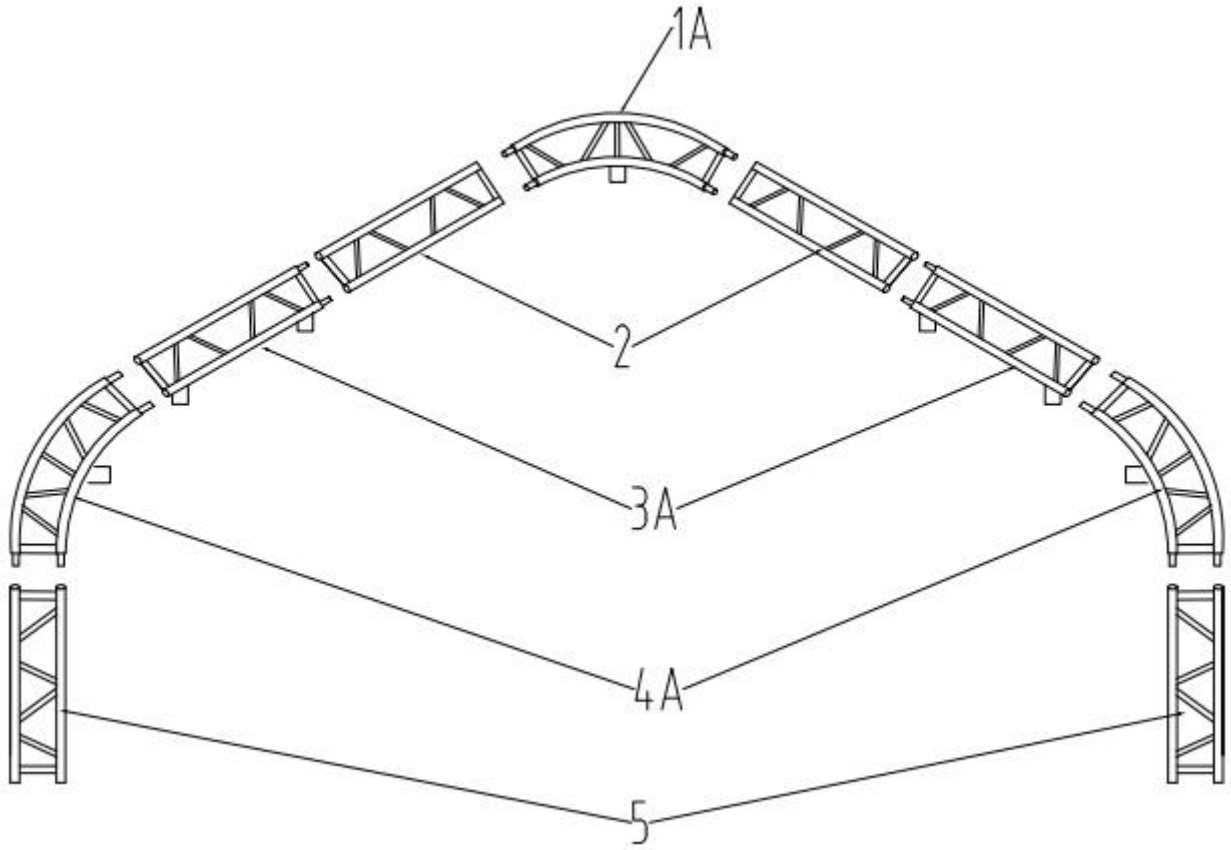
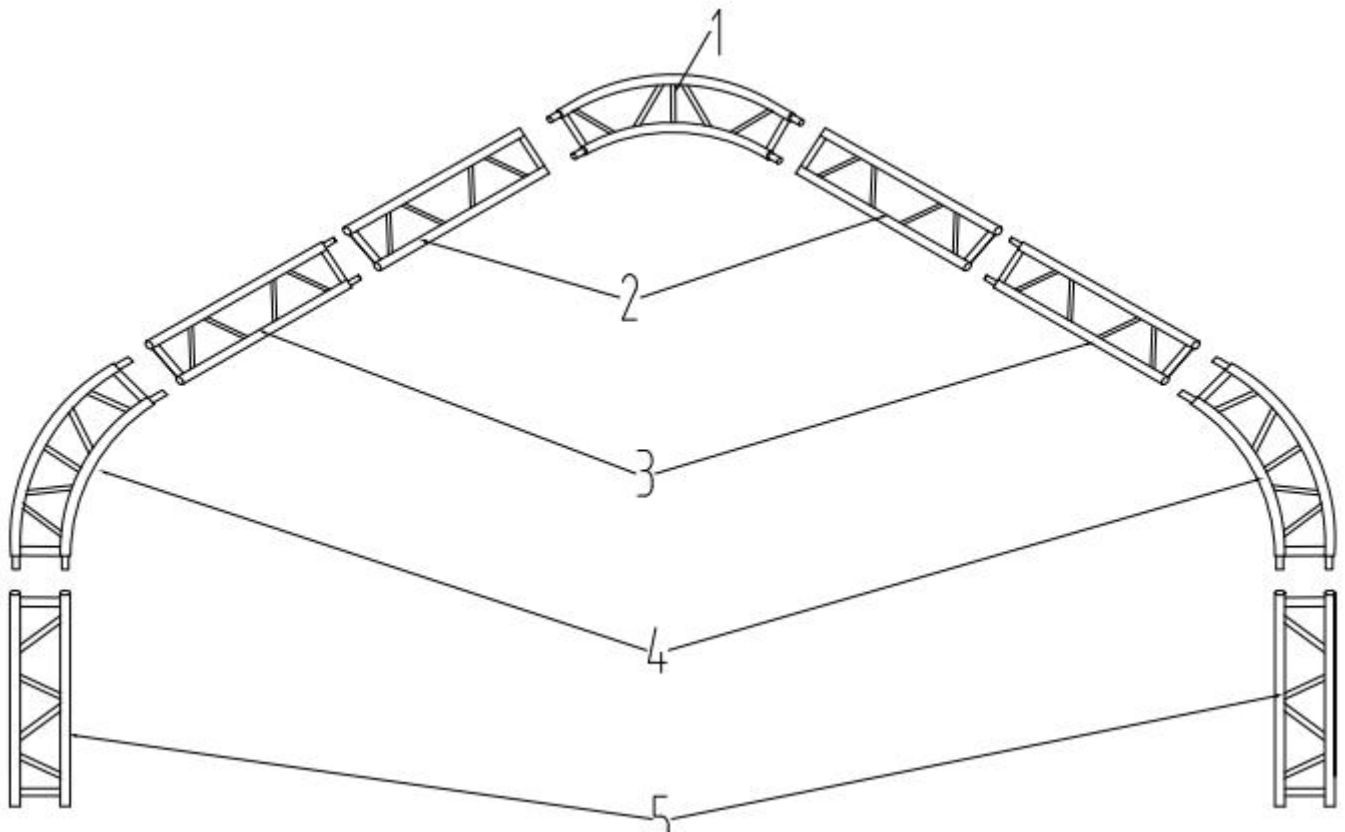

Figure 4
Figure 5
1. Figure 4 shows to connect the Top roof tube(No.1A),Roof curing tube(No.2A),Roof curving tube at both doors (No.3A) , Sidewall tube (No.4) and Standing leg(No.5) with Bolt M12x30mm(No.23), then put the arch into tube of the Base flange by hoist, and assemble every group arch by turns(see Figure 5).